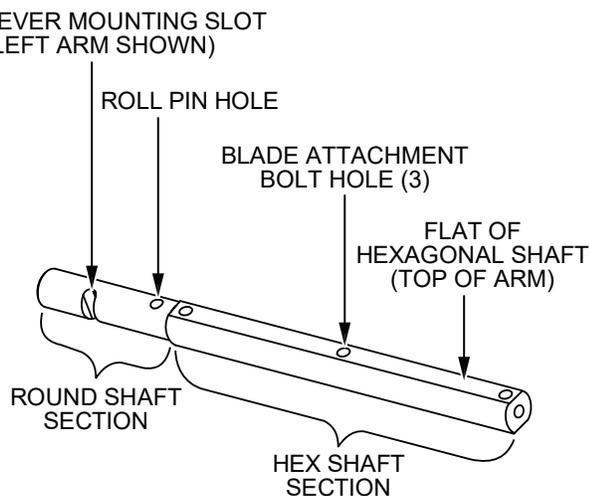

**Figure 49. Bronze Bushing**
- Should the trowel arm insert (bronze bushing) come out with the trowel arm, remove the bushing from the trowel arm and set it aside in a safe place. If the bushing is retained inside the spider plate (Figure 49), carefully remove the bushing.
- Examine the bronze trowel arm bushing (Figure 49). Clean if necessary. Replace the bushing if it is out-of-round or worn.